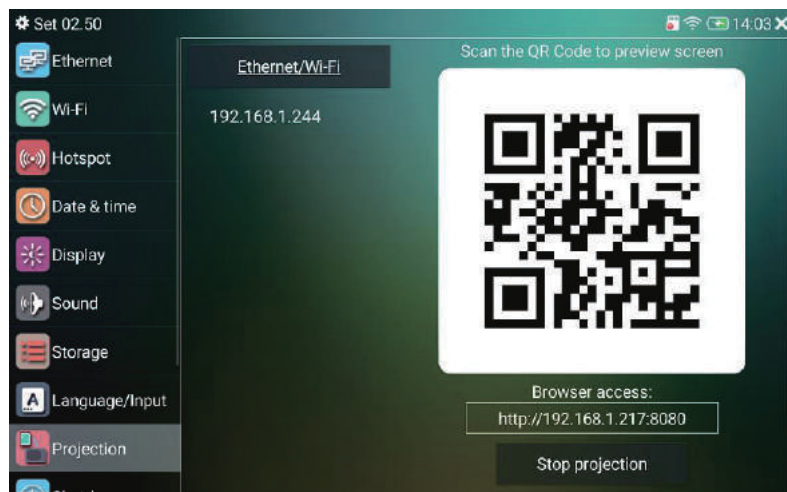

Figure 47
5) Screen projecting, the instrument can use Ethernet, WLAN or WLAN hotspot to perform projection (turn on WLAN hotspot first), screen projection supports devices including Android, Apple, WP, Black berry, Computer, etc., no need to download, free flow, scan QR code to perform projection directly or input manually, as shown in Figure 47